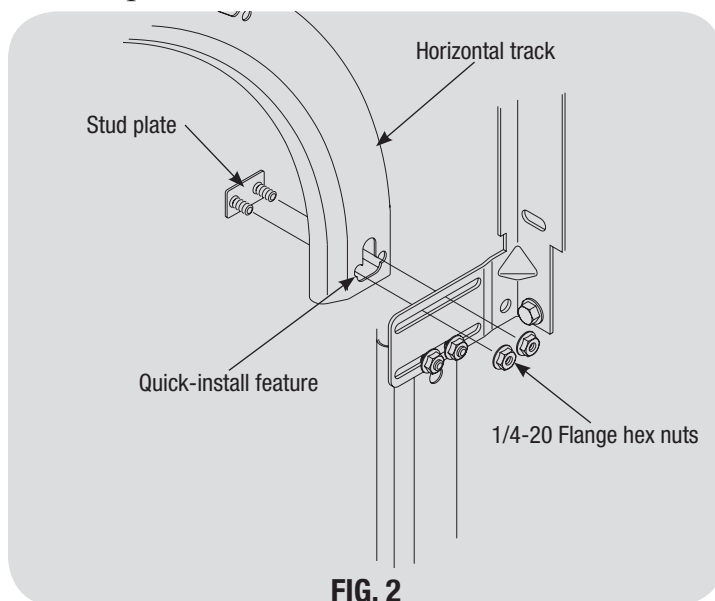

FIG. 2
To install horizontal track, place the curved end over the top roller. Align the bottom of the horizontal track with the top of vertical track. Secure the track to the flagangle with (1) stud plate and (2) flange hex nuts (see **Fig. 2**).